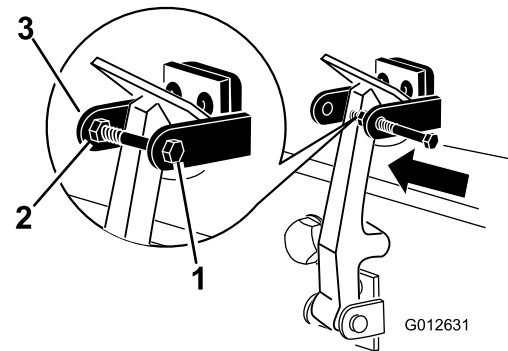

Figure 10
7. Screw the bolt into the other arm of hood lock bracket to lock the latch in position (Figure 10). Tighten bolt securely but do not tighten nut.